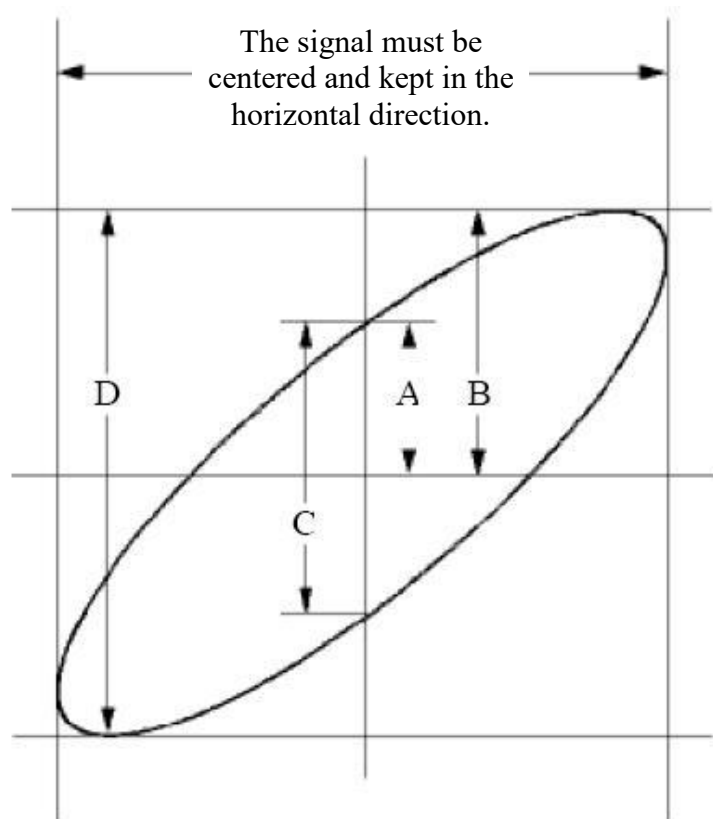

Figure 7-6 Lissajous Graph
- (1) Set the probe menu attenuation coefficient for **10X** and that of the switch in the probe for **10X** (see "*How to Set the Probe Attenuation Coefficient*" on P11).
- (2) Connect the probe of channel 1 to the input of the network and that of Channel 2 to the output of the network.
- (3) Push the **Autoset** button, with the oscilloscope turning on the signals of the two channels and displaying them in the screen.
- (4) Turn the **Vertical Scale** knob, making the amplitudes of two signals equal in the rough.
- (5) Push the **Acquire** button to display the right menu.
- (6) In the right menu, select **XY Mode** as **ON**. The oscilloscope will display the input and terminal characteristics of the network in the Lissajous graph form.
- (7) Turn the **Vertical Scale** and **Vertical Position** knobs, optimizing the waveform.
- (8) With the elliptical oscillogram method adopted, observe and calculate the phase difference (see *Figure 7-6*).